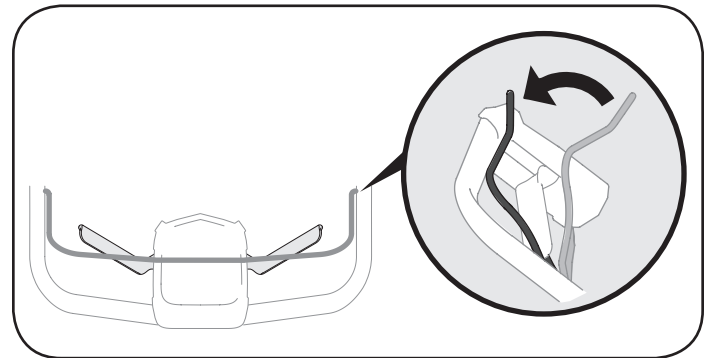

Figure 14
**NOTE:** Once the engine is running and while using the mower, continue holding the blade control against the upper handle. See Figure 14.